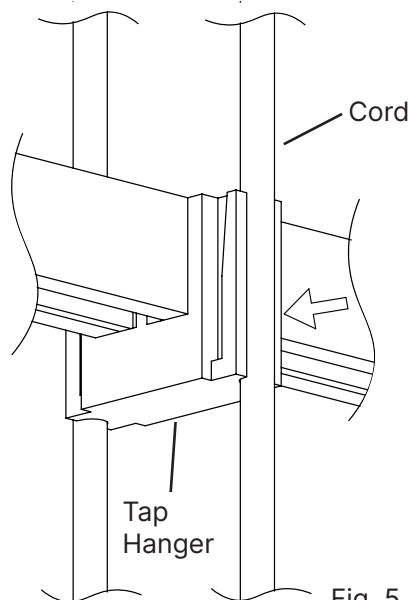

Fig. 5
5. Press each cord into the slot on each side of the **Tap Hanger** (Fig. 5).